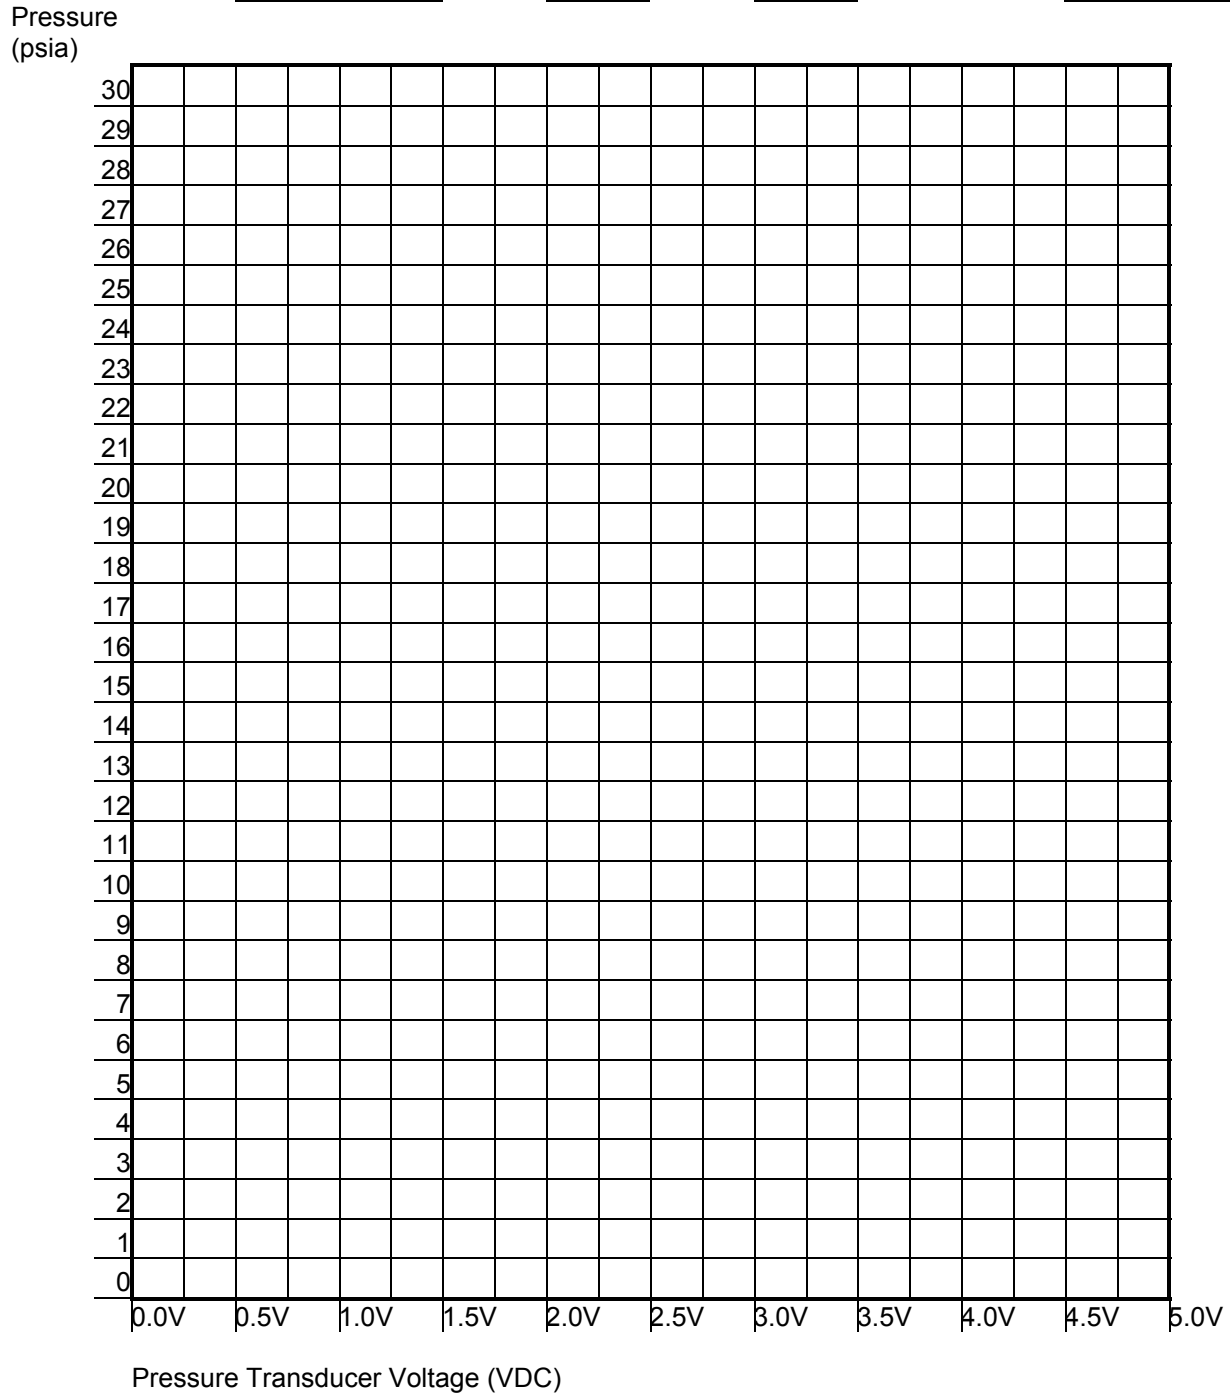

Figure 9-2 – Voltage vs. Pressure
9.3.7 Plot the data collected in Table 9-1 on the graph in Figure 9-2 below. Verify: \_\_\_\_\_